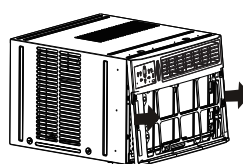

Fig.3
4. Push metal cabinet side to release plastic tabs on each side of front panel (see Fig.3).